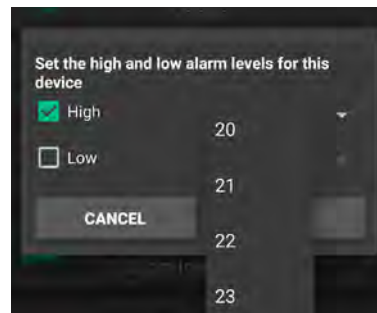

Fig. 7
- c. Temperature Alarms – Set the high and low alarm thresholds you require (See Fig. 7).